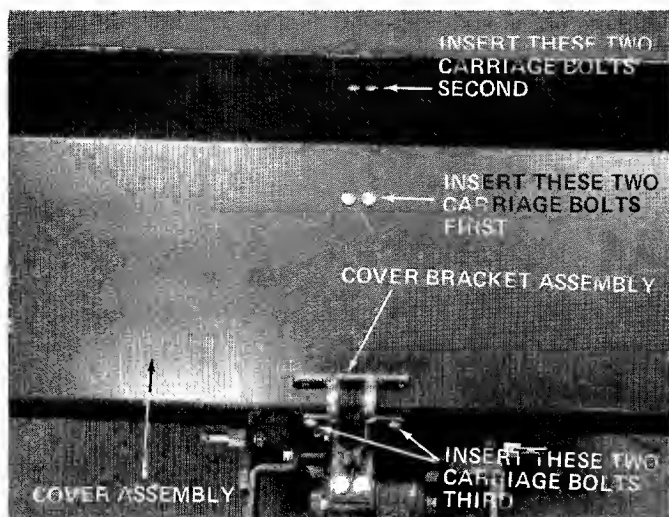

FIGURE 8.
8. Place tiller cover assembly in position on the tiller cover bracket as shown in figure 8. Using six 1" carriage bolts (Q), six 5/16" lockwashers (R) and six 5/16-18 hex nuts (S) start by hand. **Do Not Tighten.**
- a. Place two of the carriage bolts in the top center of the cover first. See figure 8.
- b. Place the next two carriage bolts in the rear of the cover as shown in figure 8.
- c. Place two more carriage bolts in the front of the cover as shown in figure 8.